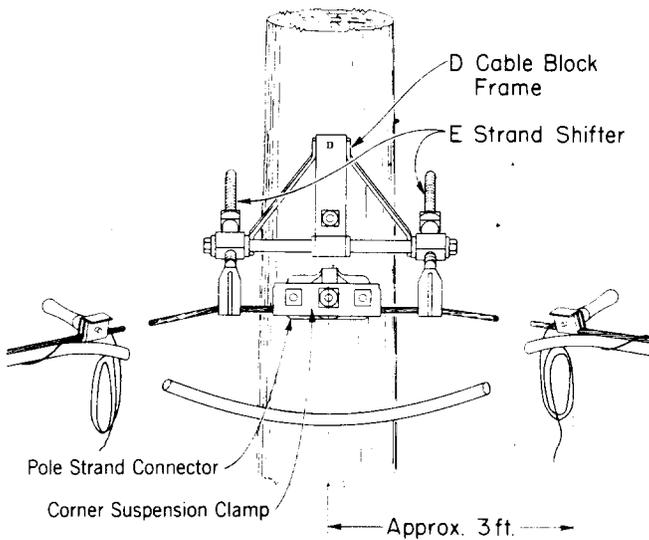

Fig. 16—E Strand Shifter Installed on D Cable Block Frame
7.05 The E strand shifter is used with the D, E, and F cable block frames at inside and outside corners to move prelashed cable and strand into position for attachment to the suspension clamp. The method of installing the E strand shifter on the D, E, and F cable block frames is shown in Fig. 16, 17, and 18, respectively.